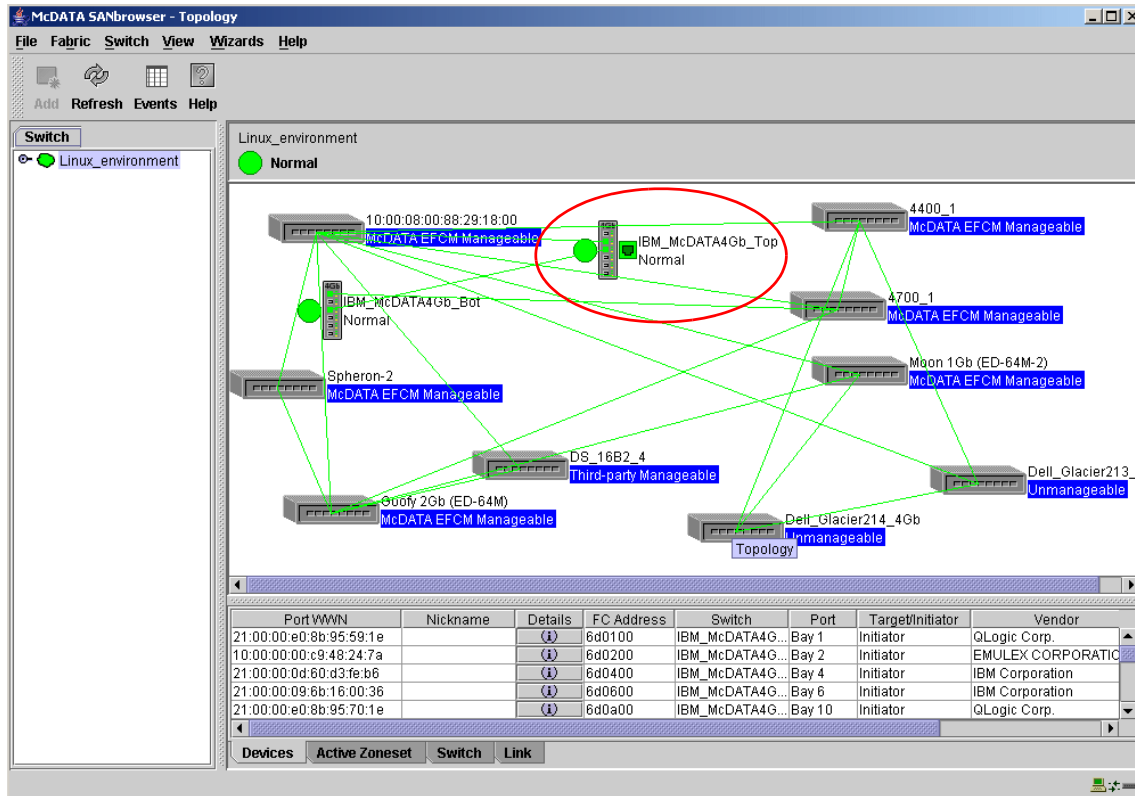

Figure 8-12 Topology window - Linux environment
3. Select **Yes** to establish a non-secure connection. You will see a window similar to Figure 8-12.